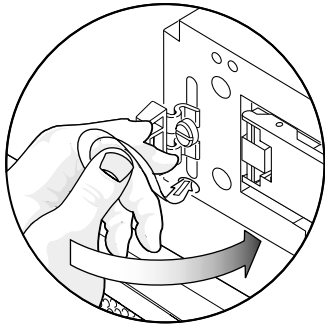

FIGURE 5-9 Pushing the Tether in the Opposite Direction
- 4. Push the same tether in the opposite direction (FIGURE 5-9).**